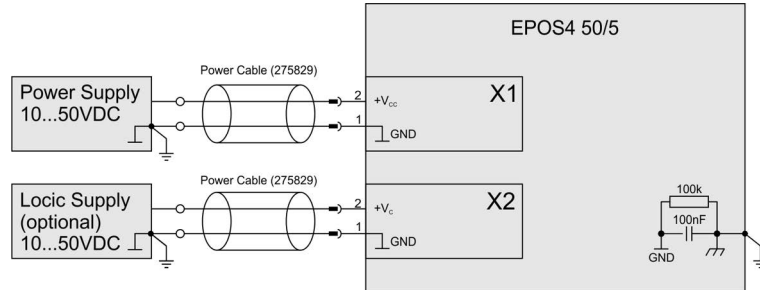

Figure 4-49 Power & logic supply
**Power supply & optional logic supply** ..... Figure 4-49